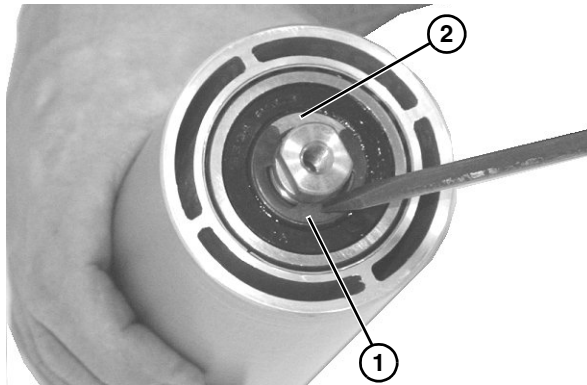

Figure 52
5. Remove the spindle shaft assembly: remove the clip ring (Figure 52, item 1) and washer (Figure 52, item 2) from one side of the spindle assembly.